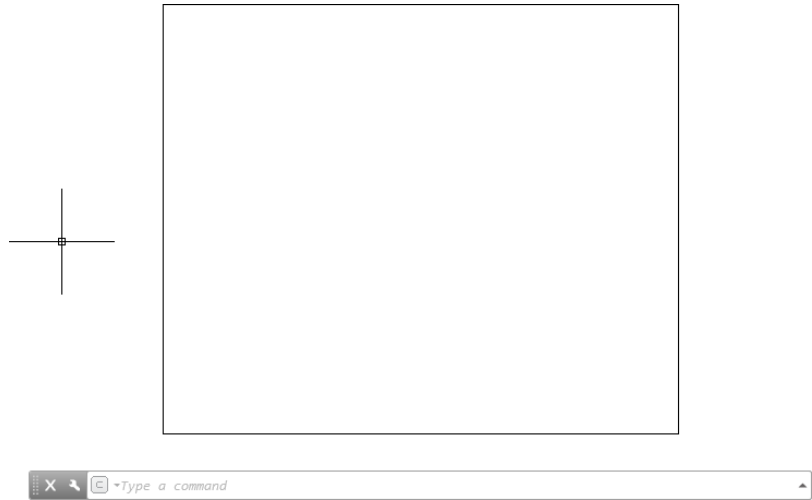

FIGURE 2.16: The first four lines of the box
Typing **C↵** after drawing two or more lines closes the shape by extending the next line segment from the last point specified to the first point (see Figure 2.16). It also ends the LINE command. Notice that, in the command-line interface, the prompt is Type a command. This signifies that AutoCAD is ready for a new command.
6. Type C \downarrow to close the box and end the LINE command. Your box once again resembles the box shown previously in Figure 2.16.
8. Type **C↵** to close the box and end the LINE command. Your box once again resembles the box shown previously in Figure 2.16.